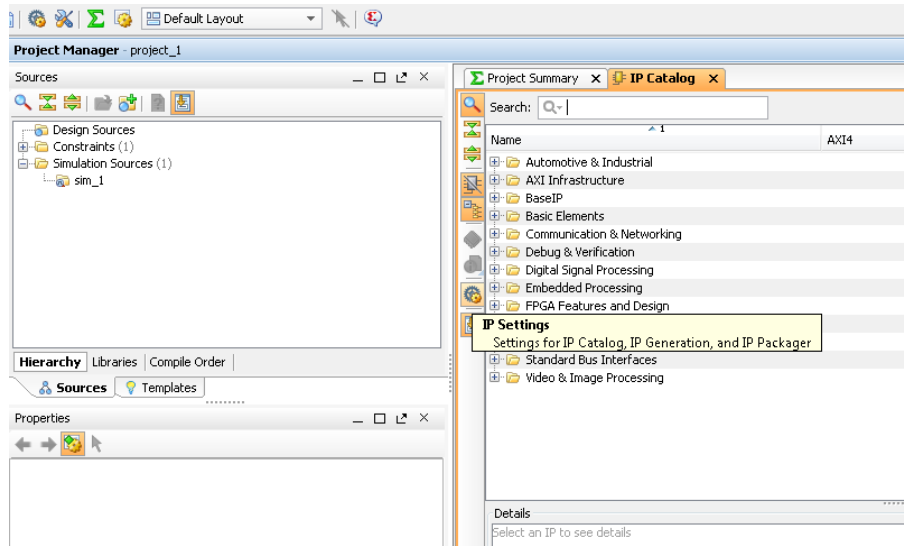

Figure 222: Open the IP Catalog Settings
2. Click the **IP Settings** icon (**Figure 222**).